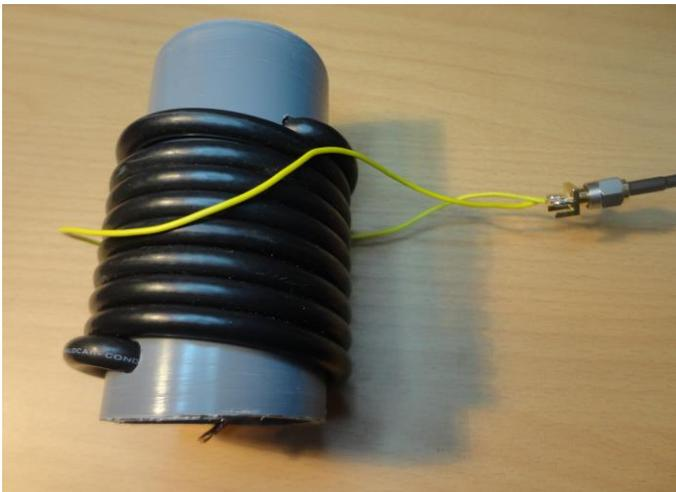

Figure 1
A simple way for the determination of the resonant frequency of a trap, or any tuned circuit is to connect a small section of wire forming a close loop, connected to the analyzer test port extension cable and put it near to or around the trap; see the Figure 1.
- Step 2. Connect the wire loop to the test port extension and place close to the trap (Figure 1)